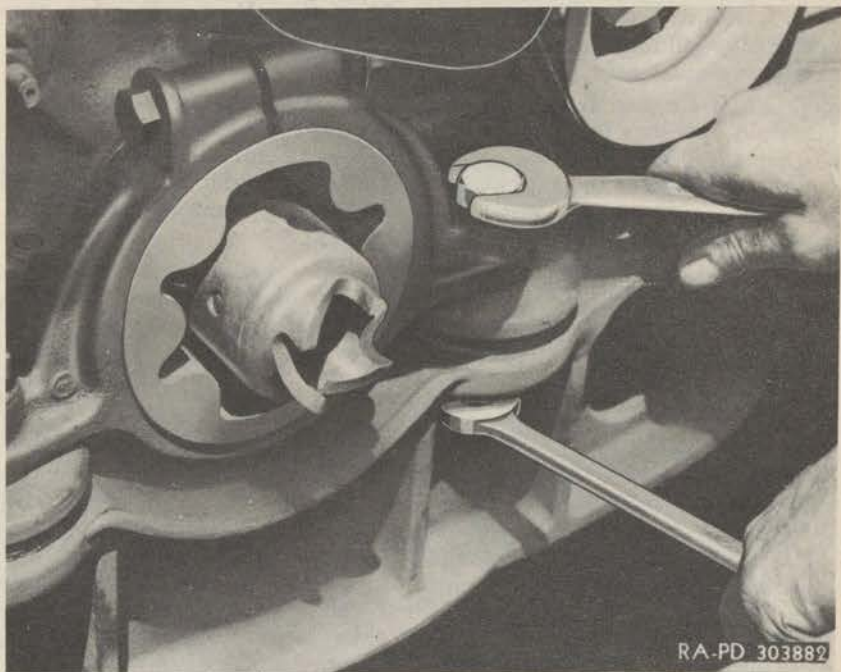

Figure 58—Disconnecting Front Engine Mounting
- y. **Remove the Front Engine Mounting Parts.** Remove the cotter pins holding the nuts, and then remove the bolts, nuts, washers and lower insulators (fig. 58).